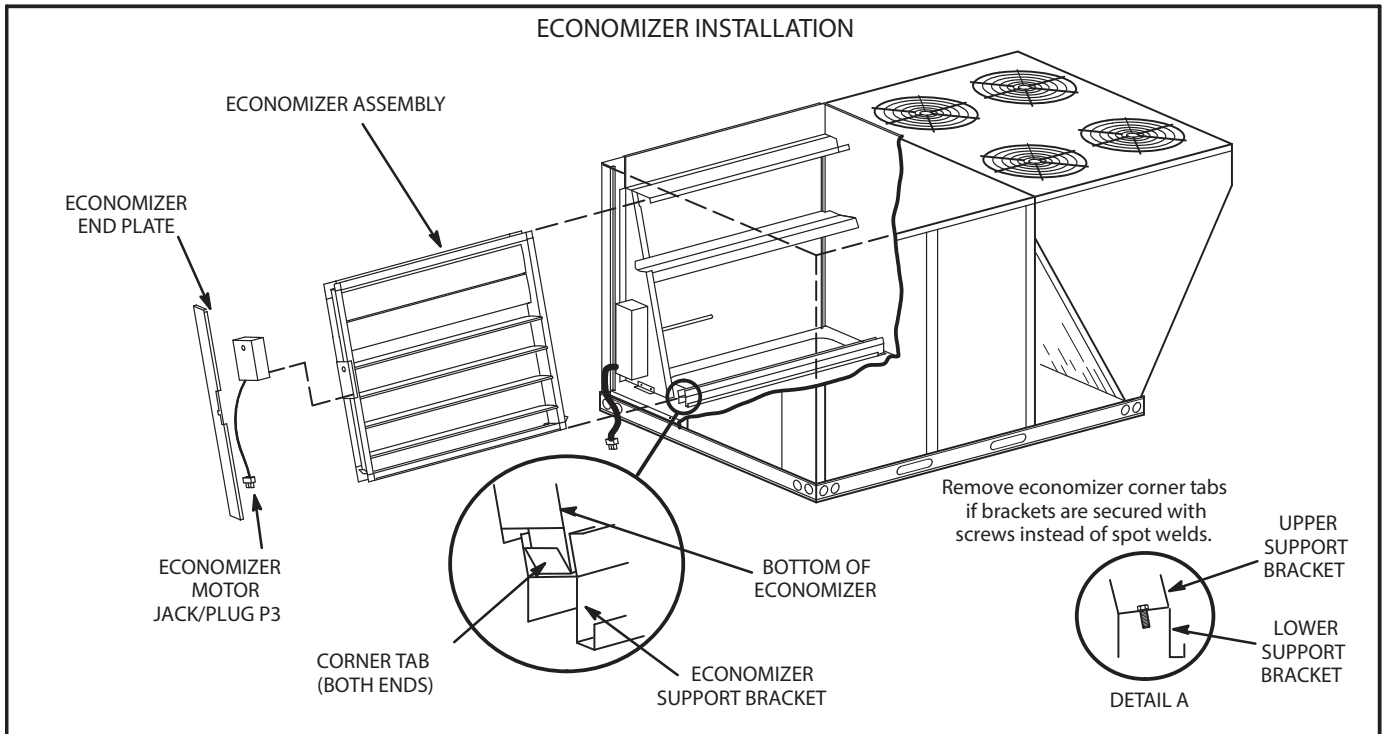

FIGURE 1
- 3– Align bottom of economizer with economizer support bracket and slide economizer in to unit. See figure 1.